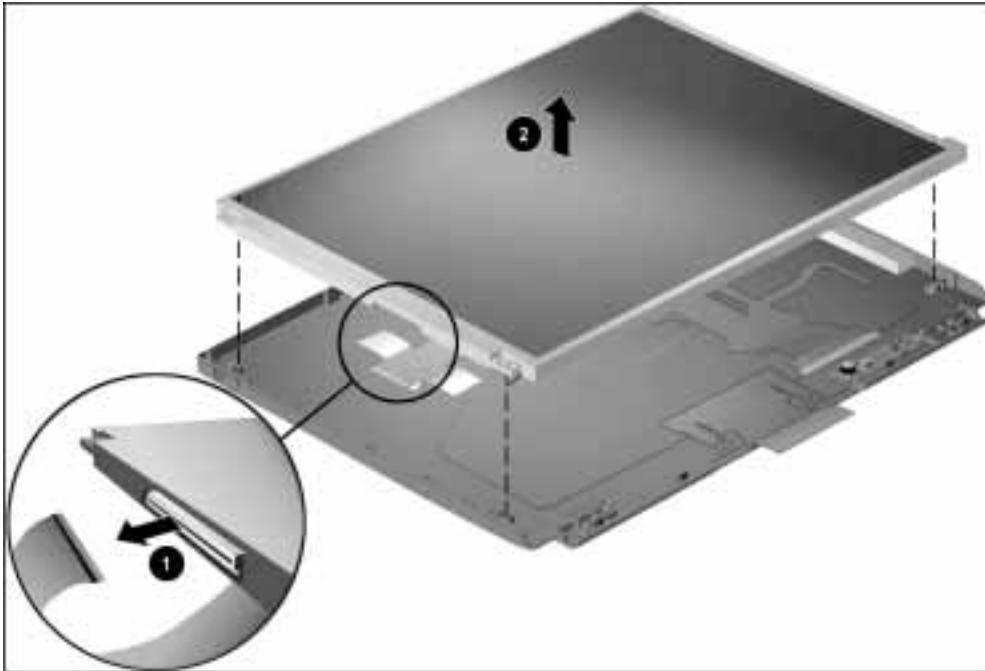

Figure 5-38. *Disconnecting the Display Cable and Removing the Display Panel*
CAUTION: Exercise caution when disconnecting the cable from the panel. Pull the cable away from the panel on a horizontal plane ❶ (Figure 5-38). Failure to follow this caution can result in damage to the cable and panel.
9. Remove the panel from the enclosure ❷.